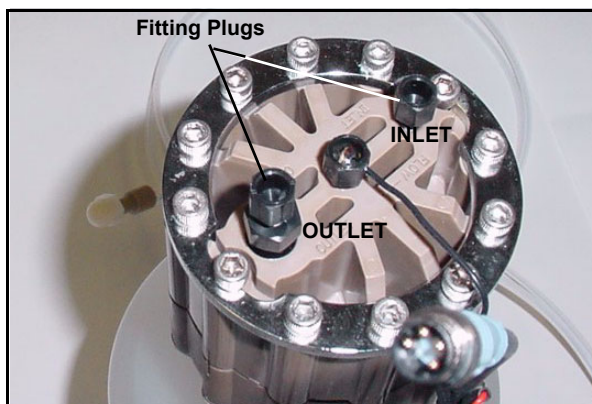

Figure 33. EGC Fitting Plugs
1. Orient the EGC with the fittings facing up (see Figure 33) and remove the plugs from the EGC **INLET** and **OUTLET** fittings.